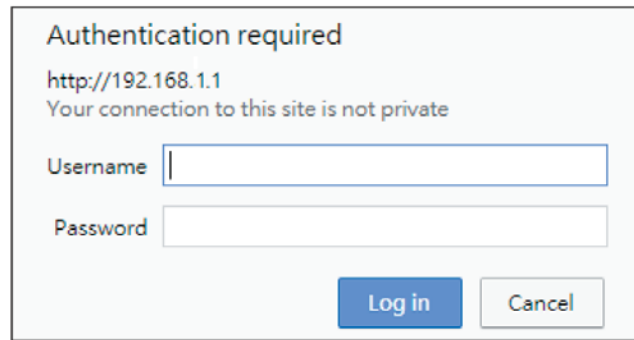

Figure 3-2: Web login Screen
2. When the following dialog box appears, please enter "**admin**" in both the default user name and password fields. The login screen shown in Figure 3-2 appears.